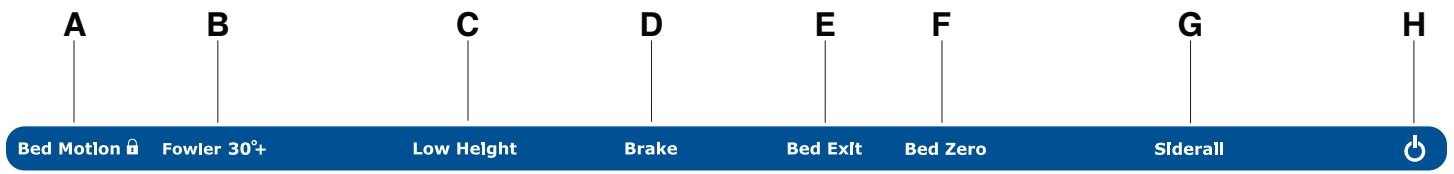

Figure 30 – Footboard LED indicators
**Note** - The **Chaperone** Bed Exit footboard LED indicator illuminates when you arm **Chaperone** Bed Exit (Figure 30).
**Note** - The **Chaperone** Bed Exit footboard LED indicator (E) illuminates when you arm **Chaperone** Bed Exit (Figure 30).
**Note** - The **Bed Zero** LED indicator (F) illuminates when you set the scale to zero (Figure 30).